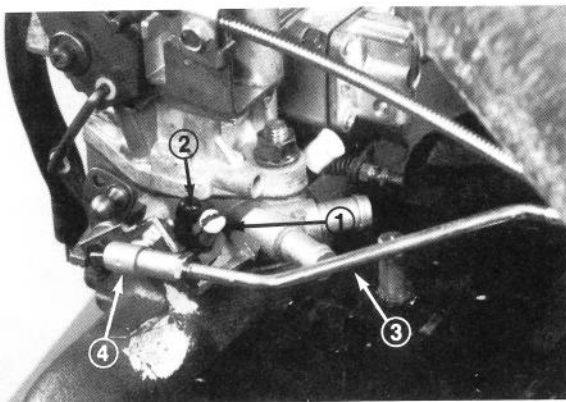
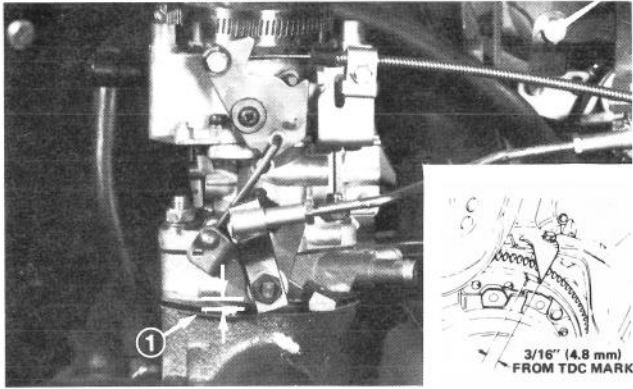

Figure 39
Figure 40
Choke idle speed screw (Fig. 39) should be adjusted to operate at 2000 rpm when the engine is "cold started".
There are two timing marks on the flywheel. The saw-cut mark is TDC — top dead center — and the chisel mark 2° BTDC — before top dead center (Fig. 40). Time the engine to 2° BTDC at 700 to 800 rpm. After timing, set idle speed back at 1450 to 1550 rpm. Idle speed must be 1450 - 1550 rpm to prevent damage to the transmission.
1. Move throttle control to FAST position and open hood. Check between the throttle arm and the stop on carburetor base to make sure there is 1/32 inch (0.794 mm) gap (Fig. 40). If gap is not correct, adjust throttle rod (Fig. 39) by turning ball joint ends until gap is 1/32 inch (0.794 mm). If gap is correct, proceed to step 2.
2. Start engine and move throttle to SLOW position. Allow engine to warm up to normal operating temperature and rotate idle screw (Fig. 39) to set idle at 1450 to 1500 rpm.